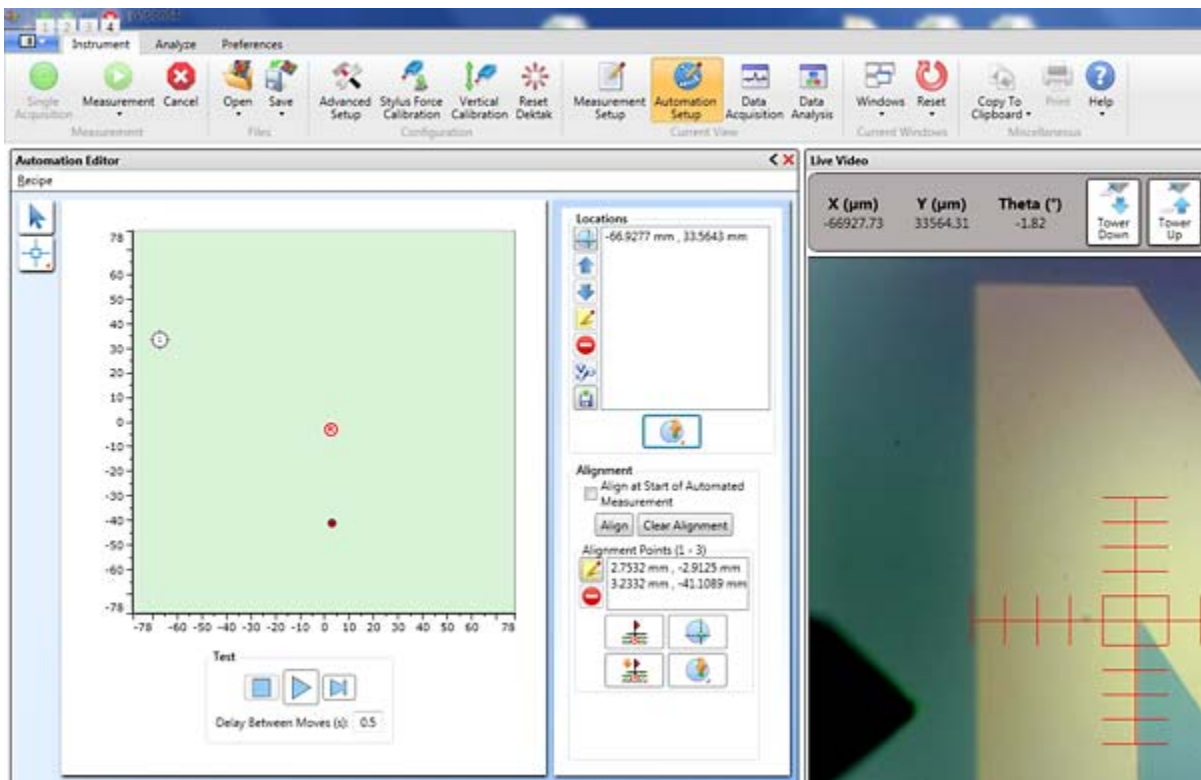

Figure 5-5: Setting a Deskew Measurement Point
- d. In the Automation Editor, click the **Add Location at Current Stage Position** button. That position number in crosshairs will appear (see **Fig 5-5 Setting a Deskew Measurement Point**).